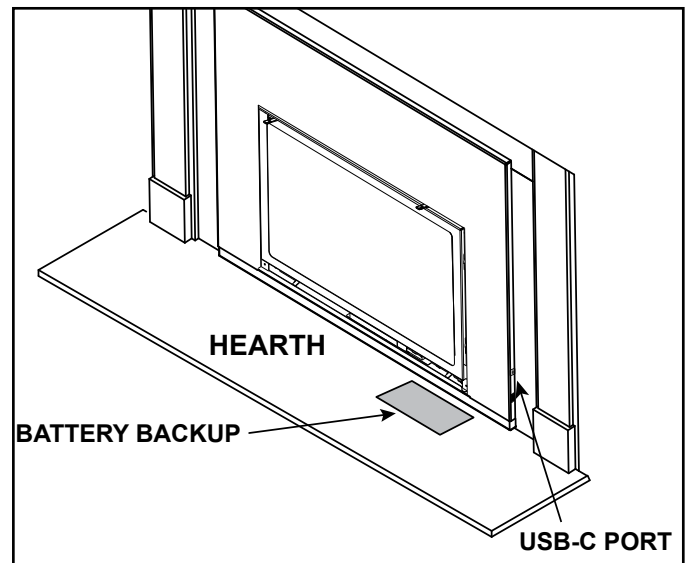

Figure 3.8
5. Locate the USB-C connector on the appliance as shown in Figure 3.8. Remove rubber plug from the USB-C port and insert the battery backup power source USB-C connector into the appliance USB-C port. Save USB-C rubber plug for reusing after power has been restored.
6. Place the battery backup power source away from any heat source and hot surface to the extent possible. Excessive heat will reduce the battery life. See Figure 3.8.